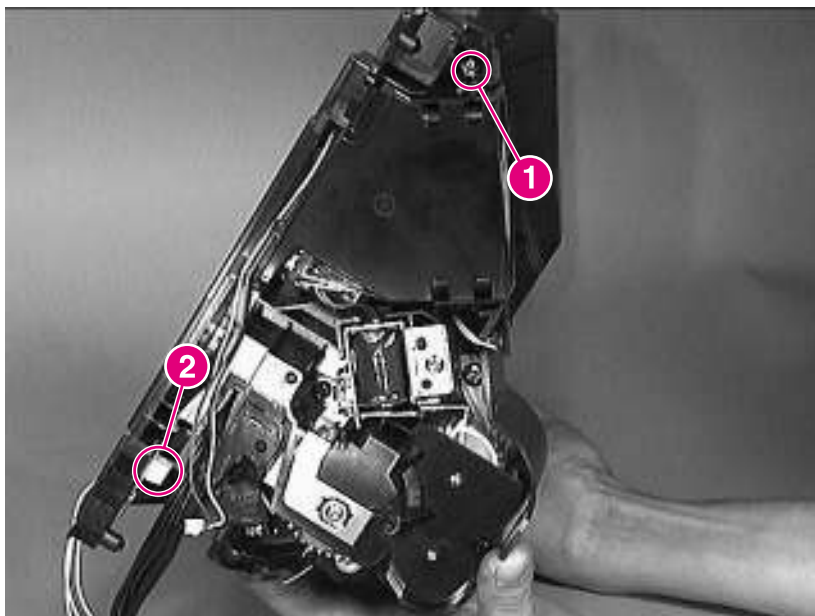

Figure 6-24 Fan 5 Removal (1 of 2)
- 3 Remove 1 screw (figure 6-24, callout 1).
- 4 Disconnect the cable (figure 6-24, callout 2). Cable is shown disconnected.